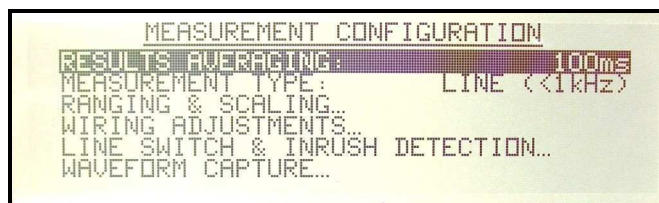

Figure 27. Measurement Configuration Screen
5. Press the **ENTER** key to enter into the SETUP Ch1 MEASUREMENTS, as shown in Figure 27.